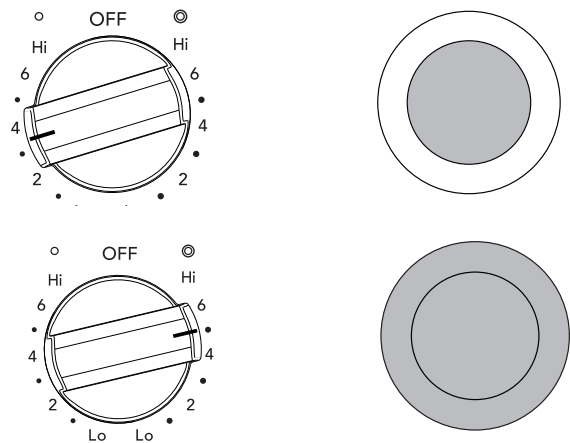

Figure 6: Dual element knob settings
2. Push in and turn the surface control knob clockwise to begin heating both the inner and outer elements. If only the inner element is needed for smaller cookware, push in and turn the knob counter-clockwise (see Figure 6).